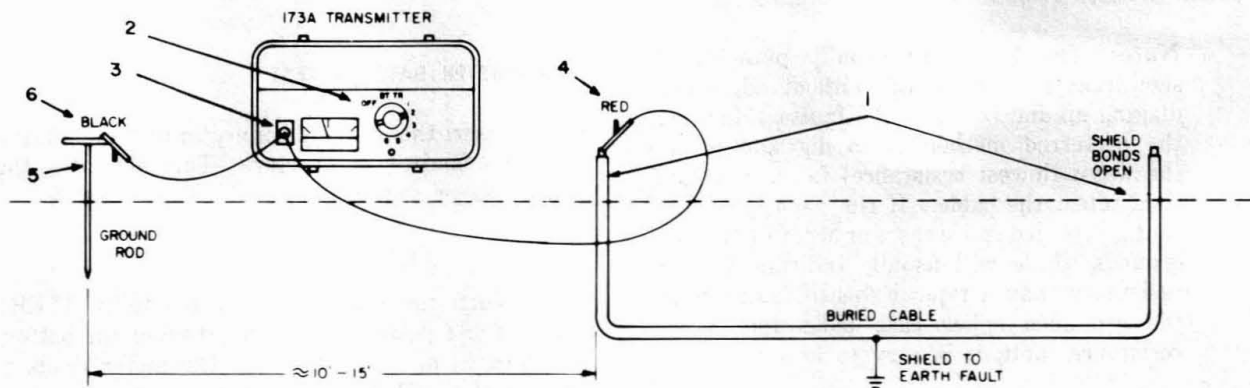

Fig. 9—Transmitter Connections
5.09 Transmitter connections with step-by-step procedures are shown in Fig. 9.
5.11 Connect the transmitter per paragraph 5.09 and Fig. 9. While rotating the switch clockwise through the numbered positions, listen to the tone from the receiver and observe the voltage increase on the meter. First, listen to the tone with the transmitter switch in TRACE position. It should be clear, rapid pulsing tone. Next, rotate the switch clockwise while listening to the tone and observing the transmitter meter. If the tone remains unchanged and, the meter decreases when the switch is rotated to a higher number, set the switch to the lower number where the meter peaked. If the tone pulse rate slows and becomes distorted, either set the switch to a lower position or replace the batteries.♦
5.23 Connect the cable and transmitter as in Fig. 9.